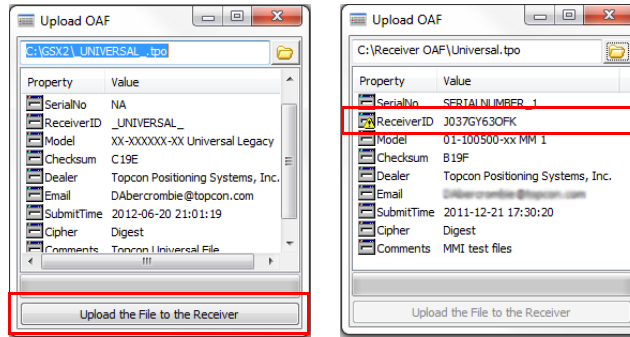
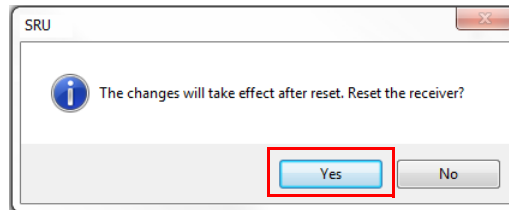

Figure 12: OAF Compatibility Check
Figure 13: Reset the Receiver
- Press **Upload the File to the Receiver** (Figure 12) to start loading the file. If an OAF file is uploaded to the receiver, SRU will offer to reset the receiver to put new authorization options into operation (Figure 13).